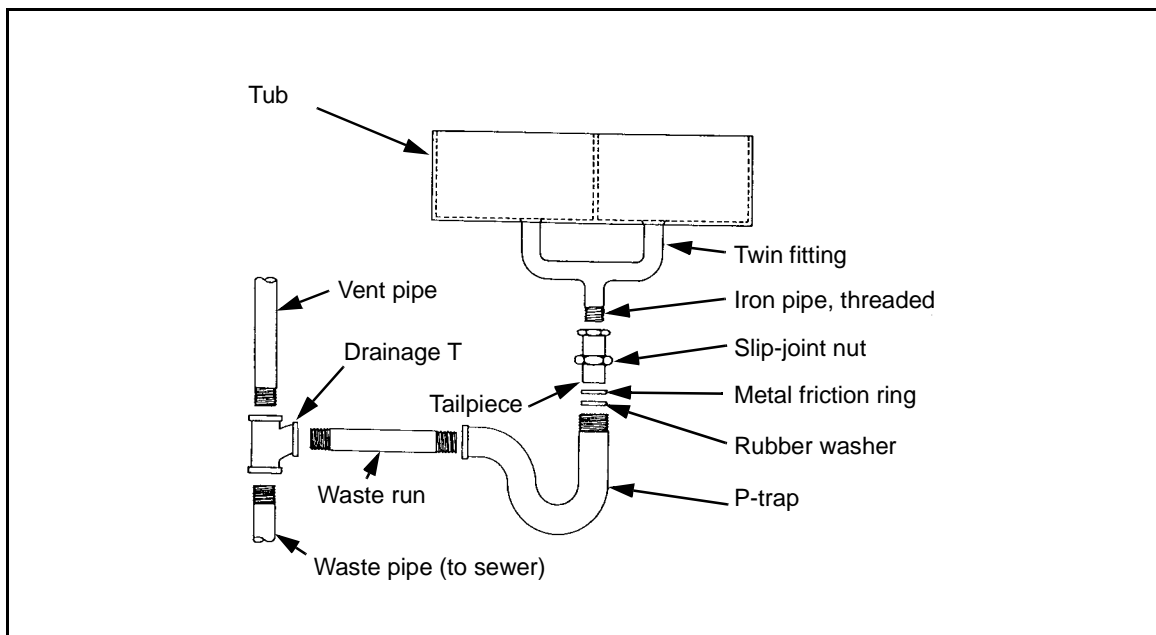

Figure 4-25. Laundry Tub Installation
4-59. Use the following steps and *Figure 4-25*, to install a tub (refer to *Chapter 7* for faucet installation):
**Step 3.** Connect the P-trap to the tub as shown in *Figure 4-25*.